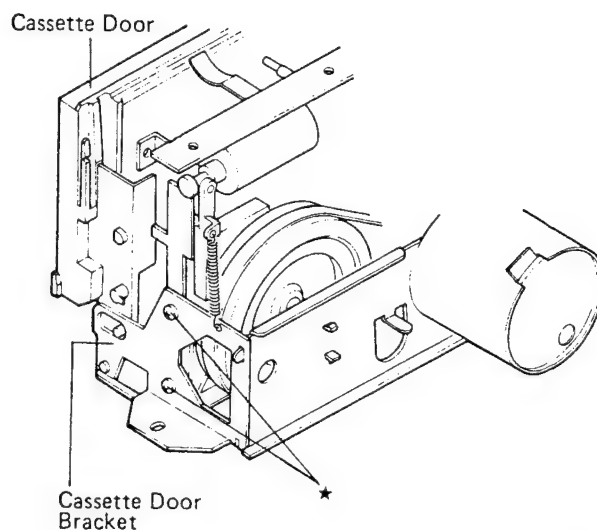

Figure 15
- (1) Remove two screws marked "★" from the cassette door bracket of the cassette deck as shown in Figure 15 and the cassette door can be removed.